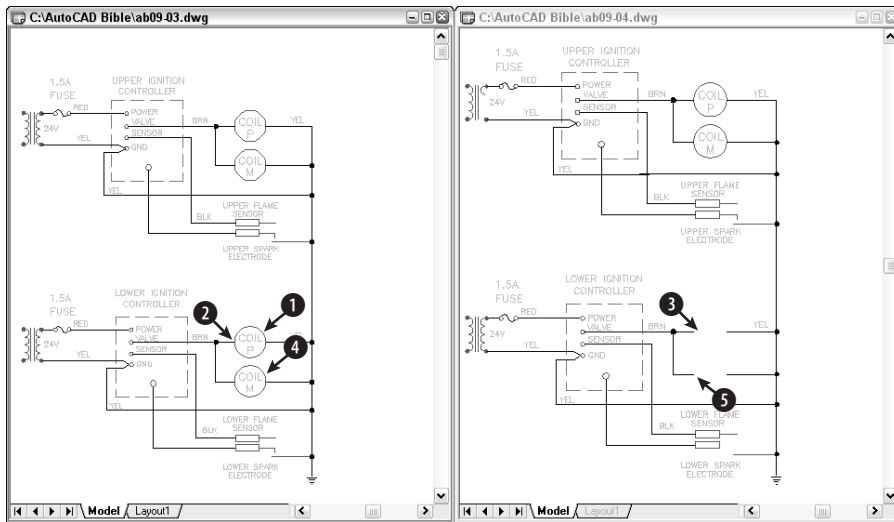

Figure 9-7: To copy objects from one drawing to another, display them both on the screen together. (The drawings may appear reversed on your screen.)
2. Choose **Window** ⇨ **Tile Vertically**. This displays the drawings side by side, as shown in Figure 9-7.
4. Pick the circle at ❶ and the two lines of text inside it.
6. At the **Specify base point:** prompt, pick the endpoint at ❷ in Figure 9-7.
7. Click anywhere in *ab09-04.dwg* to make it the current drawing. Right-click and choose **Paste** from the shortcut menu. At the **Specify insertion point:** prompt, pick the endpoint at ❸ in Figure 9-7. AutoCAD pastes the objects.
8. Click in *ab09-03.dwg*. Press **Esc** to clear any grips. Pick the circle at ❹ in Figure 9-7. (Don't include the text this time.) Click again and hold the mouse button on the circle, but not on the grips, until you see the pointer arrow with the rectangle. Drag the circle to ❺ in Figure 9-7. As you can see, you have no way to precisely place the circle.
9. Click in *ab09-03.dwg* again. This time pick both lines of text inside the circle at ❻. Right-click and choose **Copy with Base Point**. At the **Specify base point:** prompt, pick the endpoint at the left quadrant of the circle.